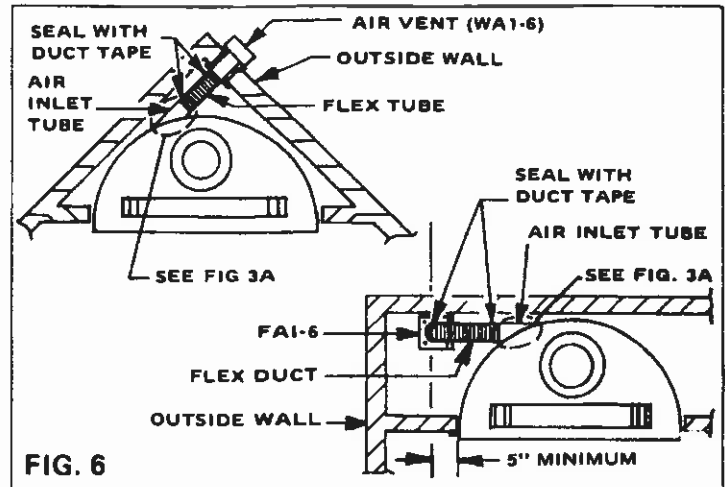

FIG. 6
STEP 6: Cut a 6" hole in the floor or wall as shown in FIG. 6 or 7. Mount the wall eyebrow or the floor air inlet as shown. **CAUTION: AIR INLET DUCTS ARE NOT TO TERMINATE IN ATTIC SPACE.**